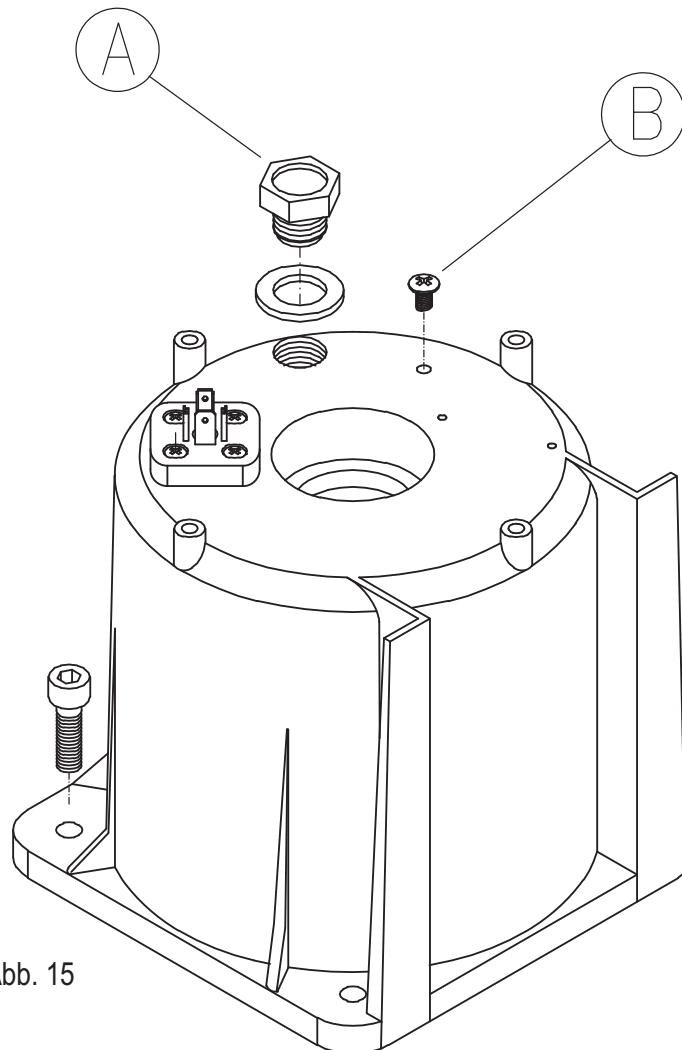

Fig. 15 - Abb. 15
3. Enlever le bouchon de l'huile (détail A - fig. 15).
3. saque el tapón del aceite (part. A de la fig. 15);
Bleed screw: Once installation has been completed, slacken the bleed screw indicated in figure 15 detail B.
3. Remove the oil plug (detail A of fig 15).